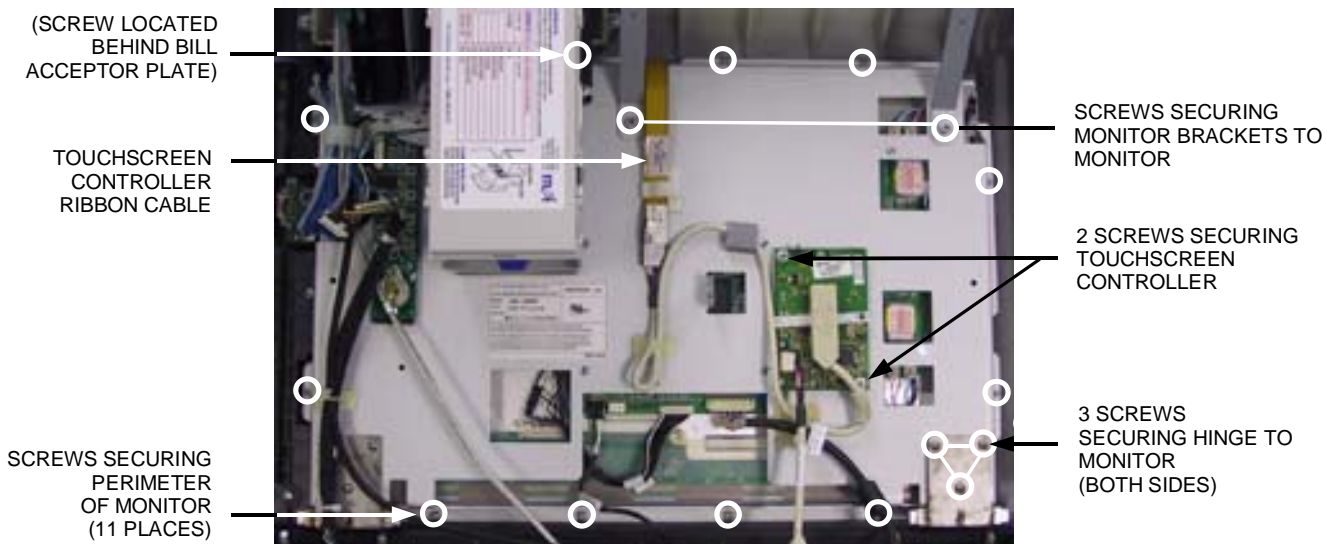

FIGURE 4 - SCREW LOCATION ON REAR OF MONITOR
6. Remove the 2 screws securing the touchscreen controller to the rear of the monitor assembly (see Figure 4), then move the touchscreen controller out of the way for the moment.
7. Remove the screws securing the monitor brackets to the rear of the monitor assembly, then remove the 11 screws that secure the perimeter of the monitor (see Figure 4). Remove the monitor from the bezel.
8. If you are replacing the monitor: Remove the 3 screws securing each hinge to the bottom of the monitor (see Figure 4).
1. *If you are replacing the touchscreen:* Place the new touchscreen into the monitor bezel with the touchscreen controller ribbon positioned at the top of the bezel (see Figure 4). The touchscreen should rest flush against the foam on the inside of the bezel, and the tape on the new touchscreen should be positioned away from the bezel. **NOTE: Do NOT remove the backing from the tape on the touchscreen.** Replace the monitor on top of the touchscreen with the same orientation it had before you removed it from the system (see Figure 4). Be sure to wrap the touchscreen controller ribbon over the top of the monitor as shown in Figure 4. Attach the touchscreen controller cable connector to the touchscreen controller (see Figure 1), then secure the touchscreen controller to the back of the monitor using the same 2 screws you removed earlier (see Figure 4).
*If you are replacing the monitor:* Place the new monitor on top of the touchscreen in the same orientation as the monitor you removed (see Figure 4). **NOTE: Do NOT remove the backing from the tape on the touchscreen.** Be sure that the touchscreen controller ribbon cable coming from the touchscreen is wrapped over the monitor as shown in Figure 4. Secure the touchscreen controller to the back of the monitor using the same two screws you removed earlier (see Figure 4). Reconnect the OSD cable connector to the OSD board, then secure the OSD board to the Velcro on the rear of the new monitor (see Figure 1 for proper location). Attach the bottom hinges to the new monitor using the 6 screws (3 for each hinge) you removed earlier (see Figure 4). You may need to attach the provided wire clamps to the rear of the monitor assembly. If so, note their location on the rear of the monitor you removed, or use Figure 4 as a guide.
2. Resecure the 11 screws around the perimeter of the monitor (see Figure 4), and secure the monitor brackets to the rear of the monitor with the 2 screws you removed earlier (see Figure 4).